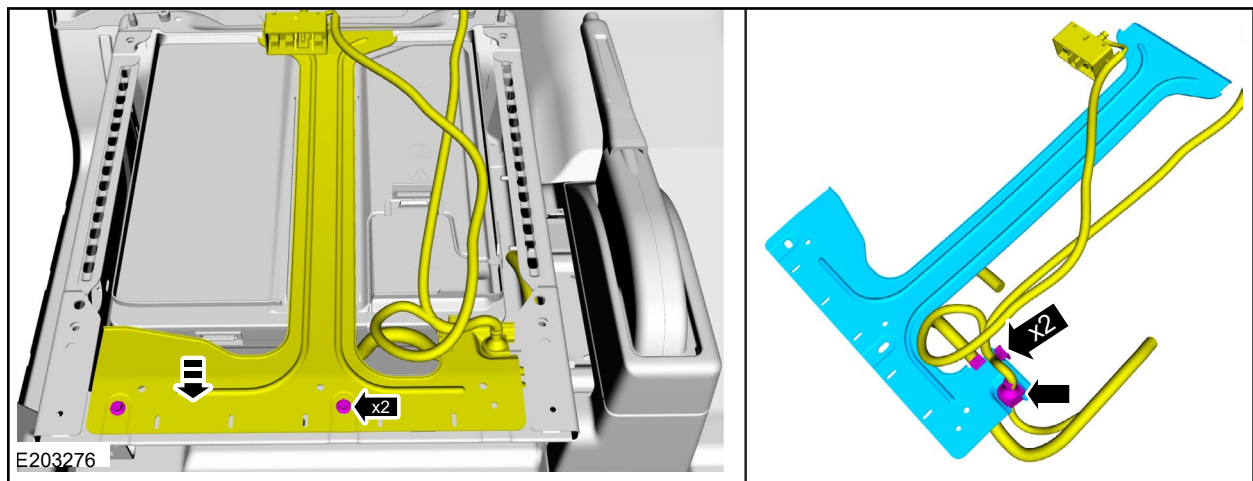

FIGURE 13
9. Remove the bolts and the wire harness retainers from the battery hold-down bracket, and remove the battery hold down bracket from under the drivers seat. See Figure 13.